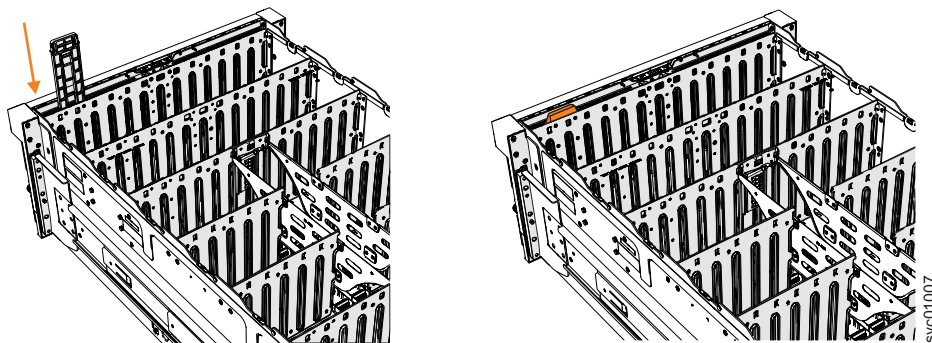

Figure 128. Installing the display panel assembly
2. Carefully align the display panel assembly in the slot at the front of the expansion enclosure, as shown in Figure 128 on page 135.